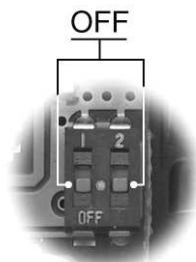

Fig. 3
- open the rear hatch of the key and place the two dip-switches in the OFF position (see Fig. 3). Close the hatch;